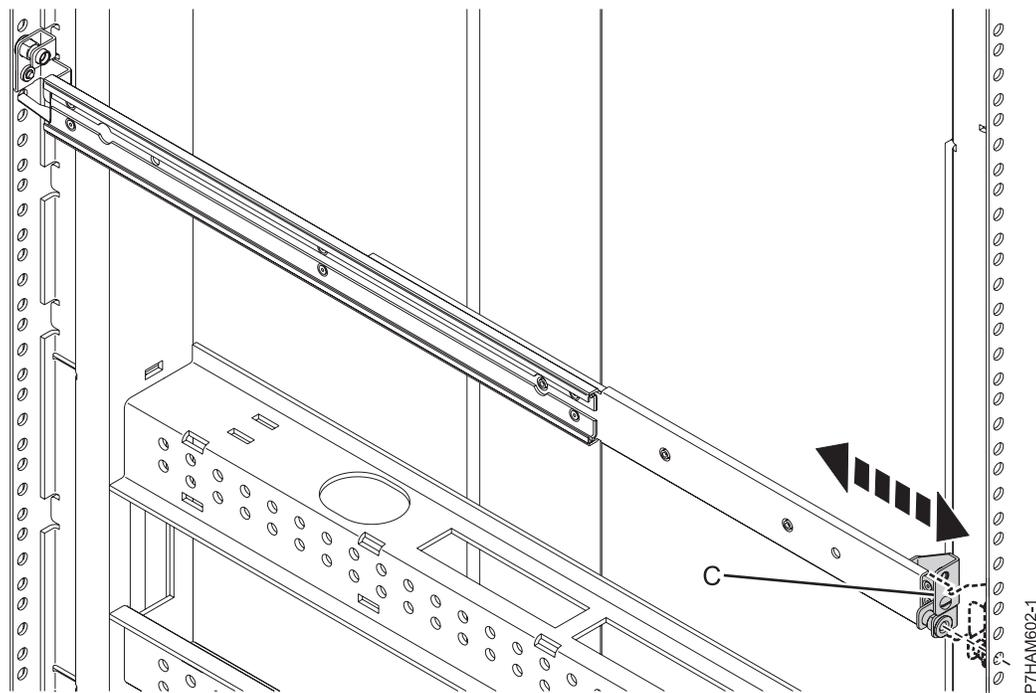

Figure 7. Expanding the rail to the rear of the rack
- d. At the rear of the rack, locate the two marks that you made previously on the EIA strips. Compress the rail (C) as shown in Figure 7, and then expand the rail carefully toward the marks until the rail end meets the rear rack flange.